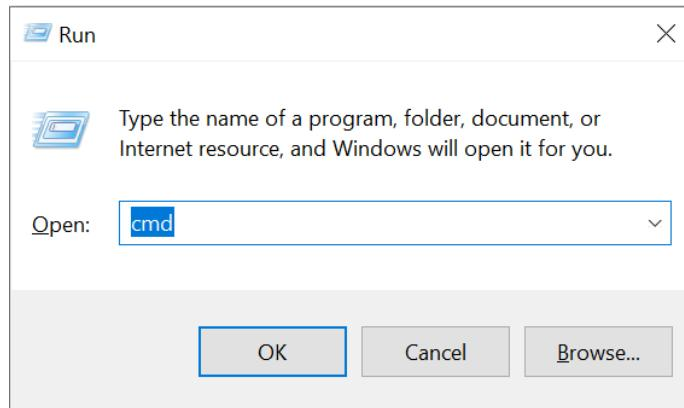
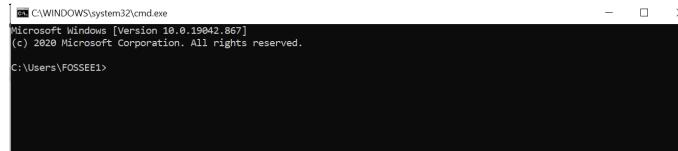

Figure 3.8: Launching the Command Prompt on Windows
Figure 3.9: Command Prompt on Windows
1. Launch the Command Prompt. Press the Windows key+R together. A window, as shown in Fig. 3.8 appears. In the text box adjacent to Open, type **cmd**, and press Enter. The Command Prompt, as shown in Fig. 3.9 appears. By default, it points to the home directory.
1. Launch the Command Prompt, as shown in Fig. 3.8.